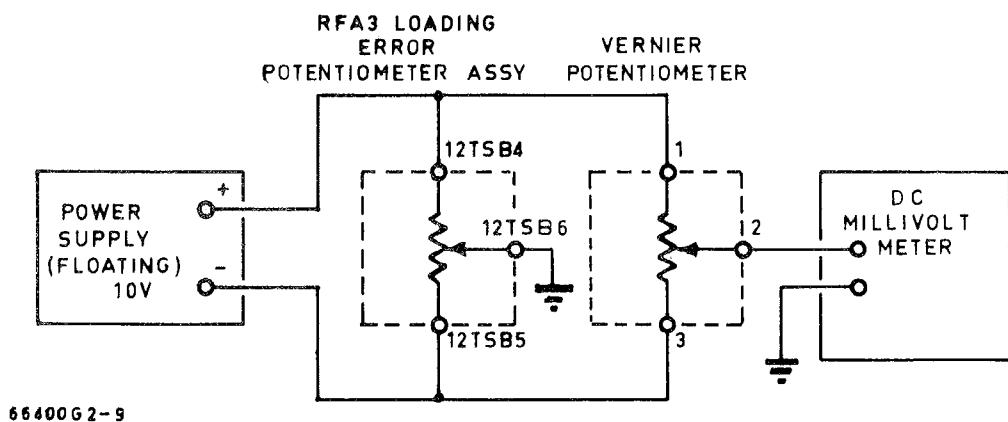

Figure 8
9. Connect the tracking test set-up as shown in Figure 8 below.